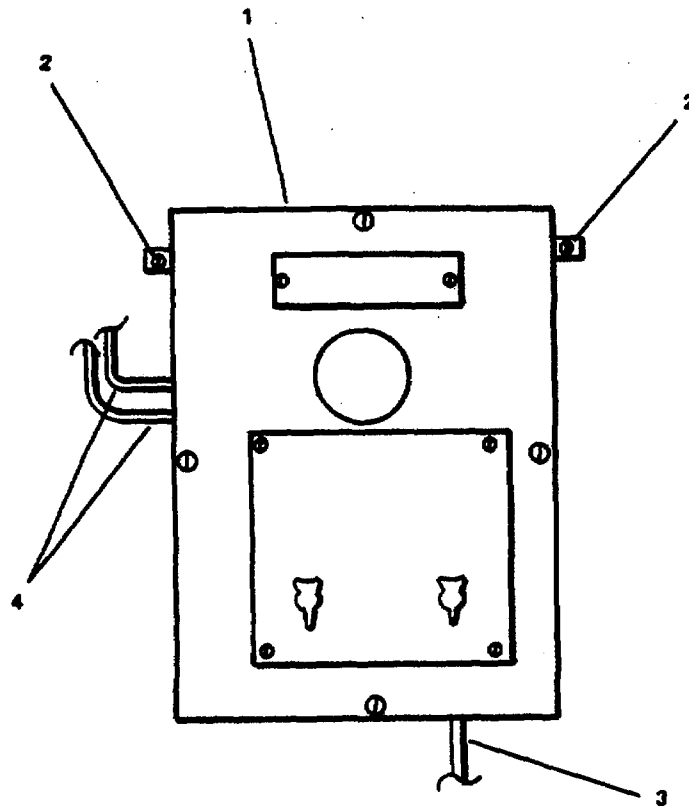

FIGURE 3-128. *Shipboard Alarm Panel.*
- a. Position fire detection control panel (1) on bulkhead (sheet 1).
- b. Secure with 12 mounting screws (3).
**3-141. Replace/Repair Shipboard Alarm Panel. (Figure 3-128)**